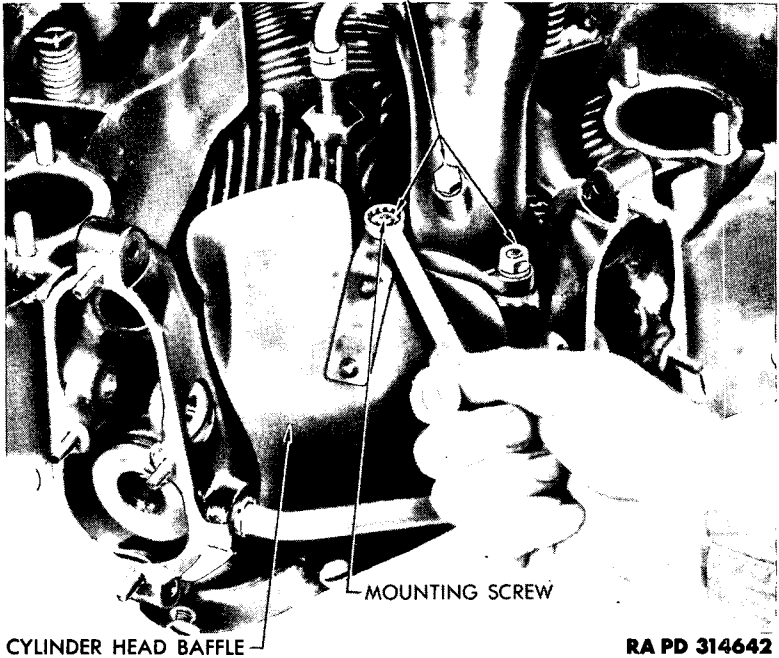

Figure 50 – Removing Cylinder Head Baffle Attaching Cap Screw
j. Remove Cylinder Head Baffles. Remove the cap screw, lock washer, and flat washer that hold each cylinder head baffle to cylinder head, and remove baffle (fig. 50). Remove all nine baffles in same way. *NOTE: The cap screw removed also serves as an attaching screw for the fuel induction tube secured to cylinder head.*
Slide nut back on each tube. Loosen remaining two cap screws, lock washers, and flat washers, holding each induction tube to cylinder head (fig. 50). Pull tube out of recess in rear crankcase section. Remove rubber seal from each recess and install seal on end of each induction tube. Remove and discard induction tube flange gaskets.